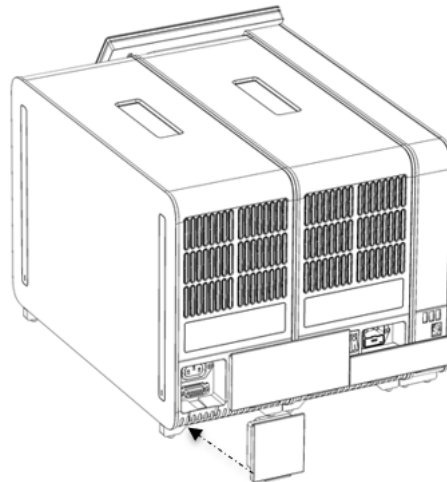

Figure 19. Connecting the Termination Bridge.
7. Connect the Termination Bridge at the back of the Analytical Module (Figure 19).